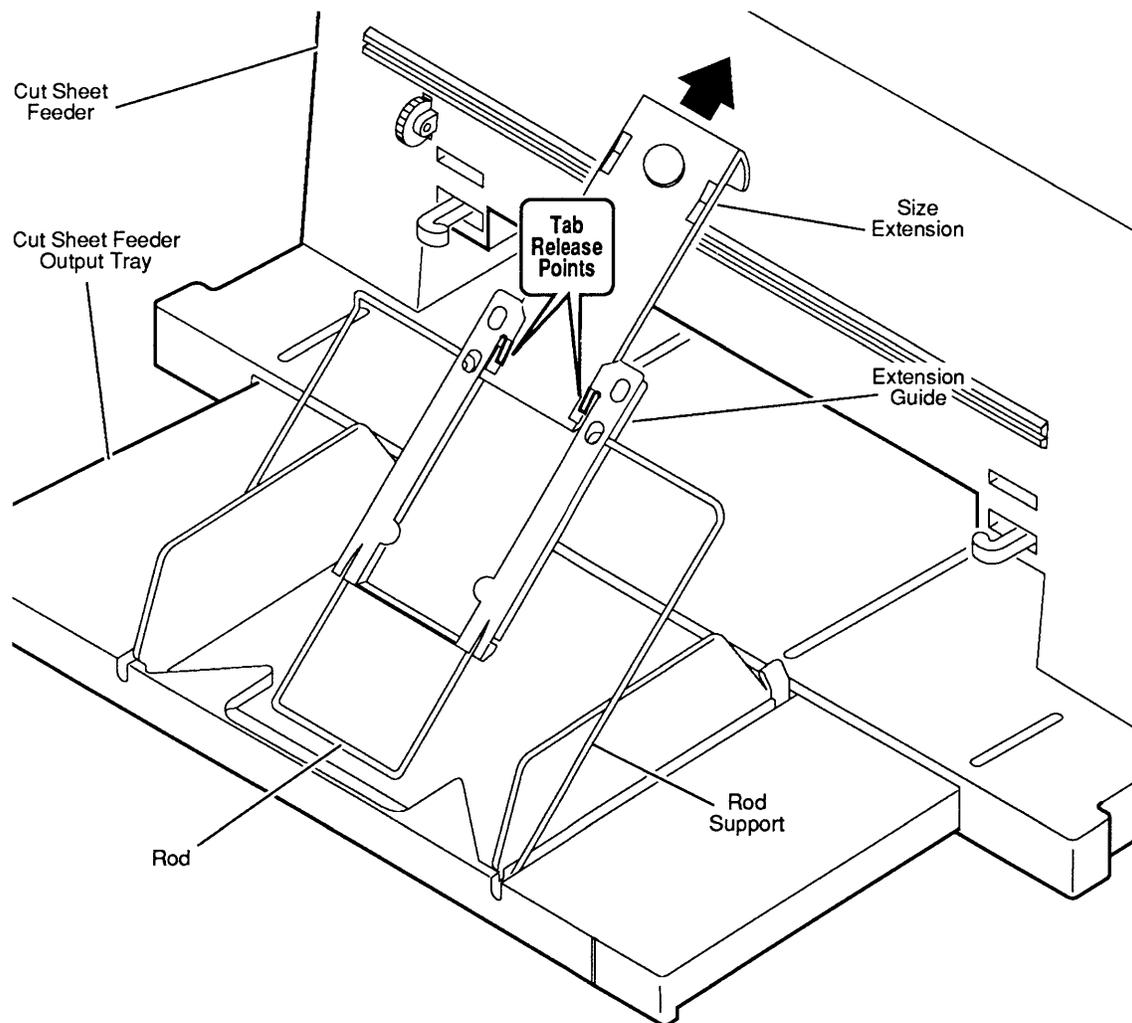

Figure 2-12 Output Tray Size Extension
2. Open the output tray on the cut sheet feeder and tip up the extension so that you can see the underside (Figure 2-12).